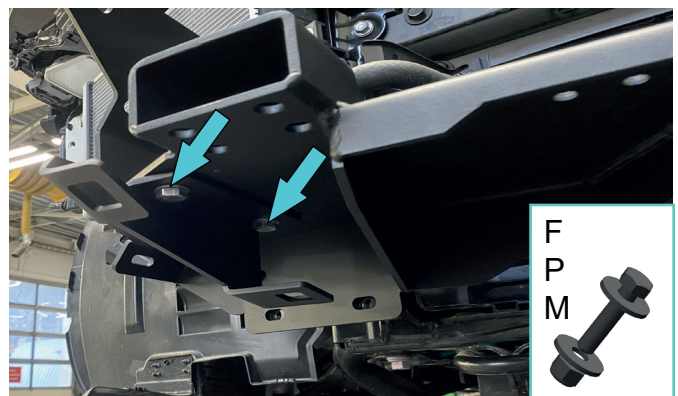

Fig.24
24. Fix bash plate brackets (item 10, 11) on both sides of the vehicle, using bolts M10x30 (item F), washers 10 (item P), nut M10 (item M) (fig.24).